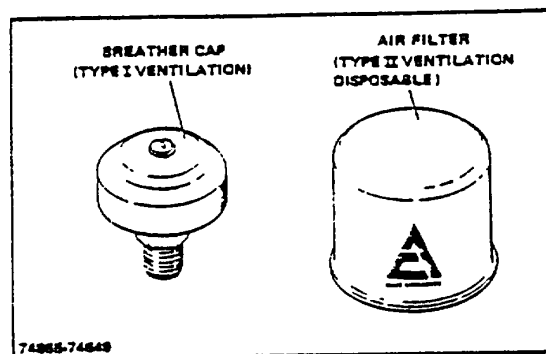

Figure 1-1. Reservoir Ventilation
9. Replace filter element and clean the (Fig 1-1) reservoir breather cap, and hydraulic oil reservoir at the recommended service intervals.
- a. Remove breather cap (Fig 1-1) from the hydraulic oil reservoir.